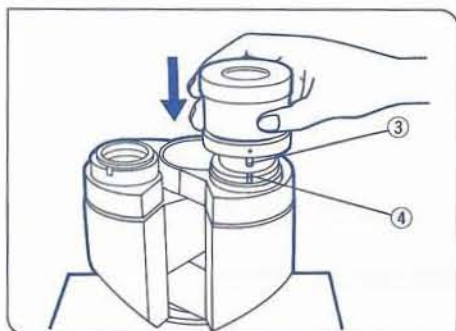

Fig. 13
When using a finder eyepiece or an eyepiece with diopter adjustment, inset it into the right-hand eyepiece sleeve. When doing so, make sure that the eyepiece positioning pin ③ fits into the notch ④ at the bottom of the eyepiece sleeve. (Fig. 13)